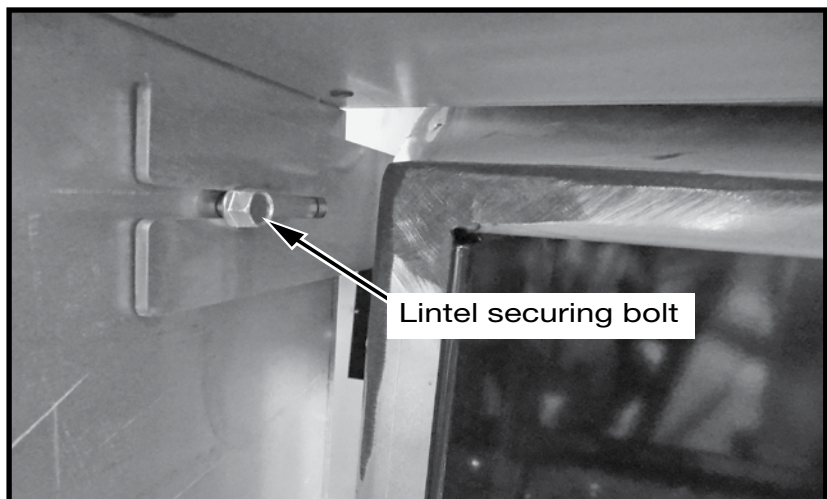

Figure 23: Upper left securing bolt.
4. Loosen the securing bolts in the upper and lower corners on each side of the lintel (Figure 23) and remove the lintel. Rotate the assembly to have the desired edge away from the fireplace.